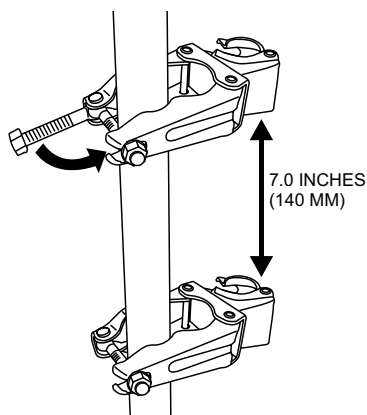

Figure 28. Distance Between Clamps
3. Attach the other clamp to the external support pole about 7 inches (140 mm) lower than the previously installed clamp. See Figure 28. If using horizontal external support poles, a second pole is needed.